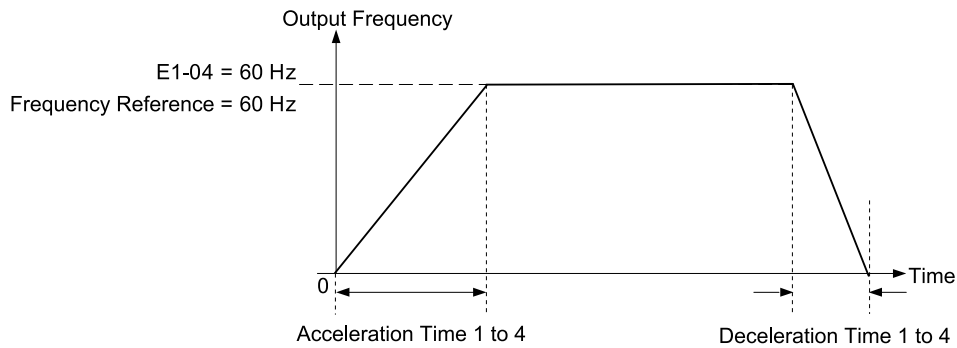
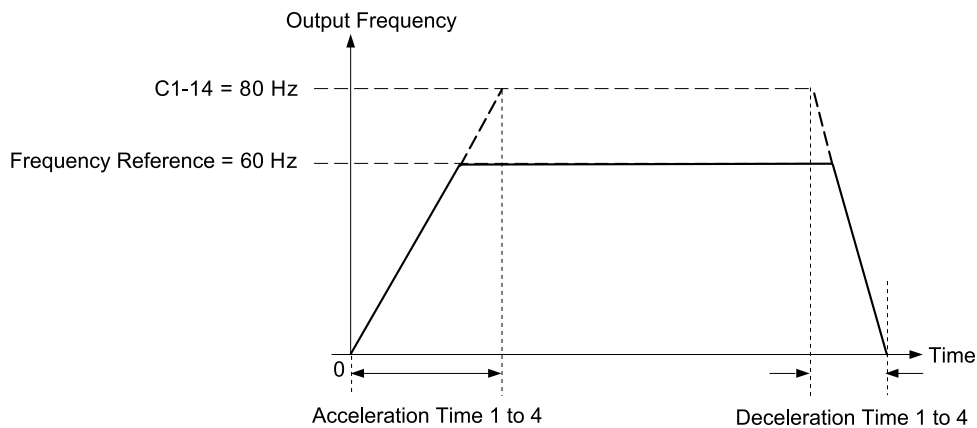

Figure 2.38 Example 1: Acceleration/Deceleration Rate (When C1-14 = 0 Hz, E1-04 = 60 Hz, and the Frequency Reference is 60 Hz)
Figure 2.40 Example 3: Acceleration/Deceleration Rate (When C1-14 = 80 Hz, E1-04 = 60 Hz, and the Frequency Reference is 60 Hz)
- Figure 2.38 to Figure 2.40 show the accel/decel times when C2-01 to C2-04 [S-Curve Times @ Start/End of Accel/Decel] = 0.00 s.